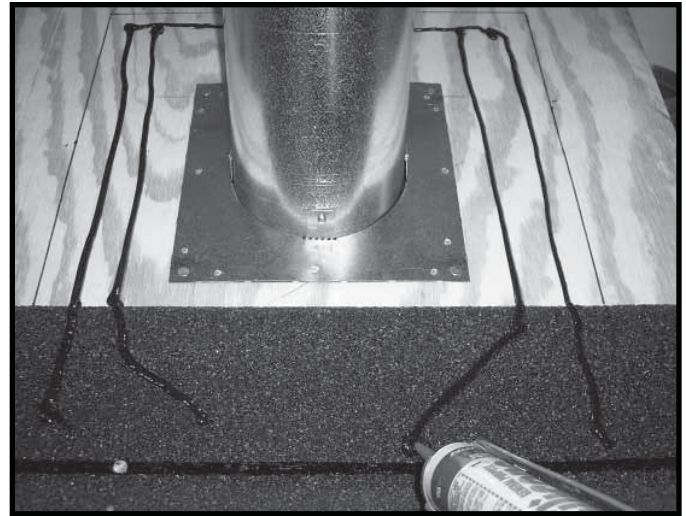

Figure 10.17 Apply Sealant
- Apply silicone sealant to roof inside the lines (Figure 10.17).